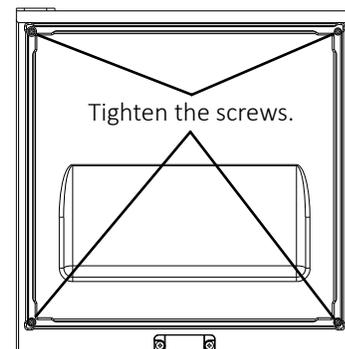

Fig. 19
7. Tighten the four M4×25 pan head screws installed in step 5 (See Fig. 19).